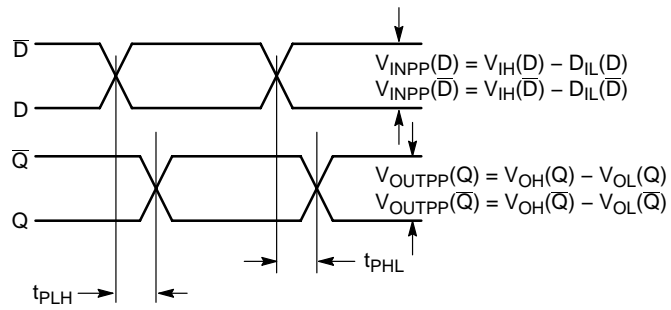

Figure 5. AC Reference Measurement
16. See Figure 5 $t_{skew} = |t_{PLH} - t_{PHL}|$ for a nominal 50% differential clock input waveform.